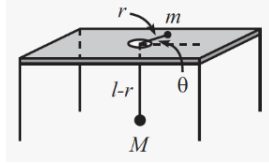

Fig. 1. Given figure for Problem 1
For Week 6, we are given two problems. The first problem shows us a mass m that is free to move on the surface of a frictionless table. Mass m is attached to another mass M via a string that goes through a hole in the table. We can assume the string has no spring-like properties, and is therefore always taut. The representation of this system is shown in Figure 1. Our first objective in this problem is to solve for the Euler-Lagrange equations of this system with respect to r and θ . Our second and third objectives here are to discuss the behaviors of r and θ in the EL equations. The fourth objective of the first problem is to give the conditions under which \dot{r} and \ddot{r} cause a circular motion for mass m .
1) *Find overall kinetic energy of the system (T):* In Fig. 1, we consider vector \mathbf{r} . Say the x-y plane is the surface of the table. Since we consider an angle θ as shown, we can say,